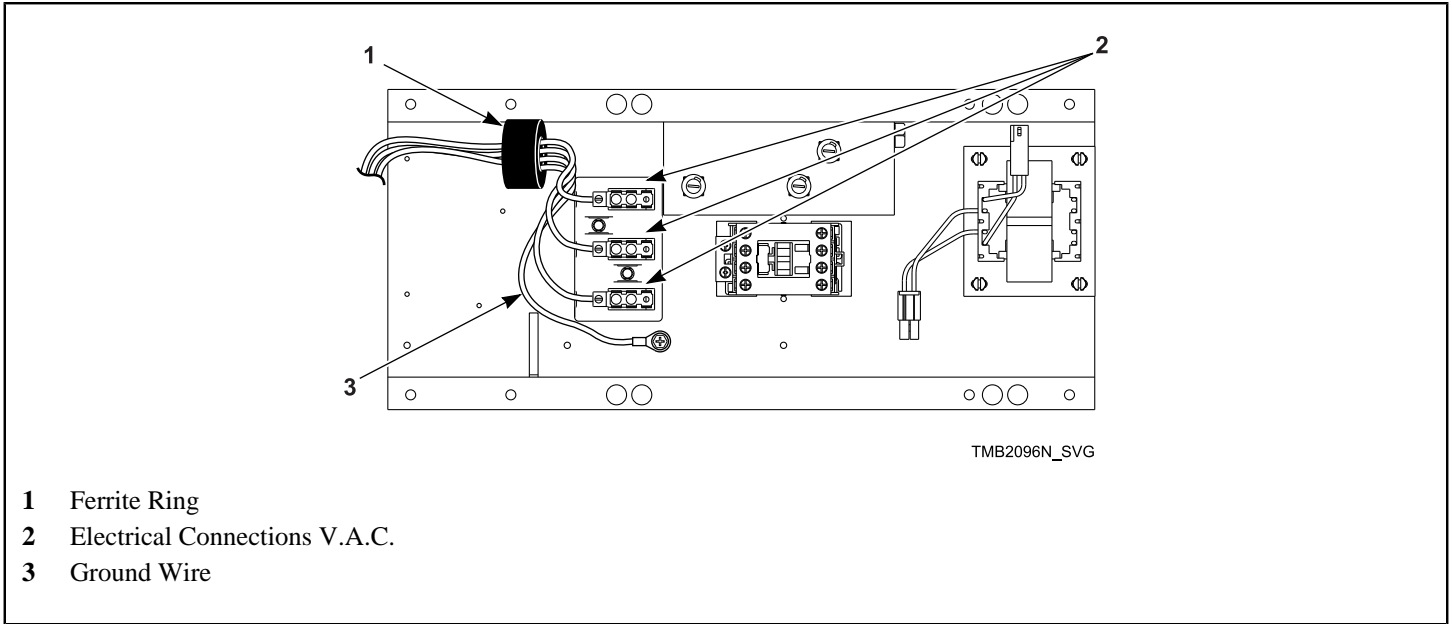

Figure 26
2. Snap the ferrite ring closed over all the service leads inside of the contactor box as shown. It is important that the ferrite ring be installed inside the contactor box. Refer to *Figure 26*. Do not install the ferrite outside of the box or other area. Make sure that service leads are in the center of the